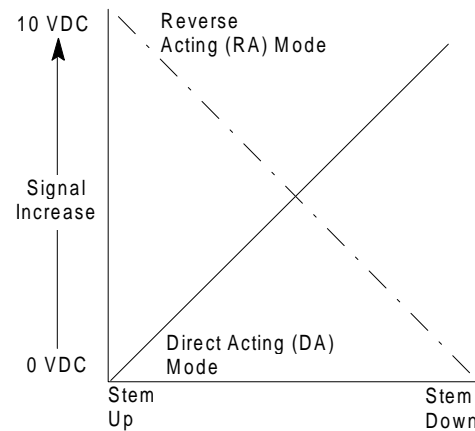

Figure 2: Direct/Reverse Action
In Direct Acting (DA) mode, an increasing signal will cause the actuator drive screw to extend, pushing the valve stem down. A decreasing signal will cause the actuator drive screw to retract, pulling the valve stem up. In Reverse Acting (RA) mode, a decreasing signal will cause the actuator drive screw to extend, pushing the valve stem down. An increasing signal will cause the actuator drive screw to retract, pulling the valve stem up (see Figure 2).